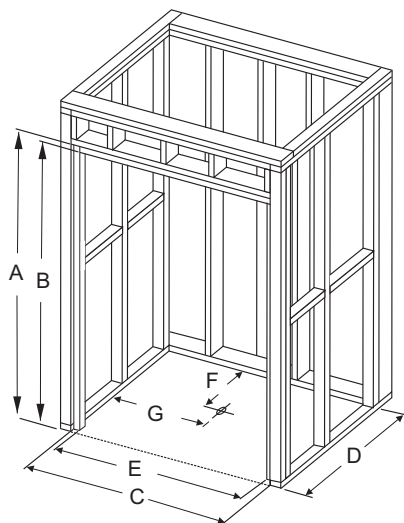
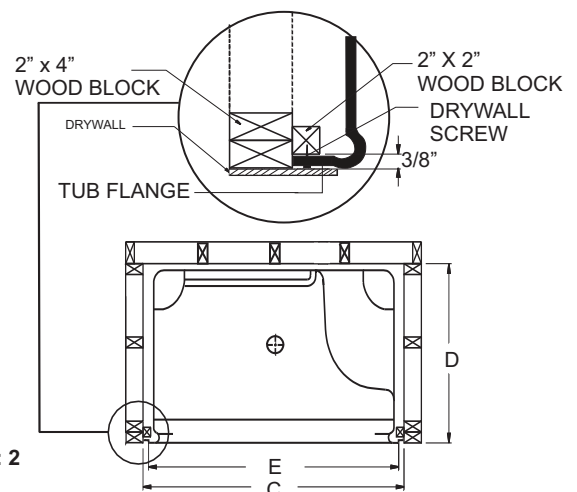

FIGURE 1 - LAYOUT DIMENSIONS
FIGURE: 2
Figure 1 and Figure 2.
- Inside dimension of the studded alcove are to be as specified in Figure 1.
- Follow Figure 2 as specified to ensure width is E" between the 2" x 2" recessed studs. (See enlarged detail.)
- Build solid framing to the dimensions in Figure 1.
- Location of Mirolin supplied drain for shower stalls is shown in Figure 1 & 2, to be assembled as in Figure 5.